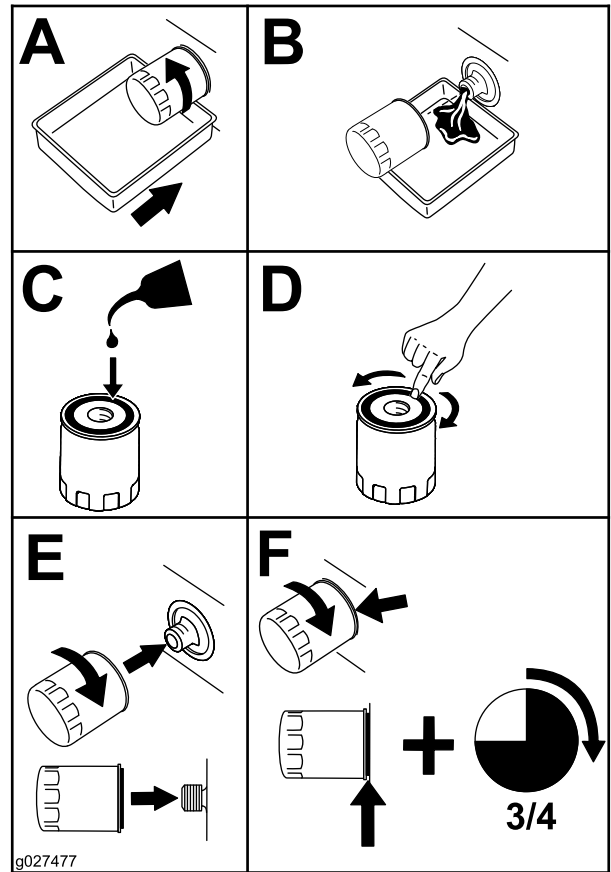

Figure 30
2. Change the engine-oil filter (Figure 30).